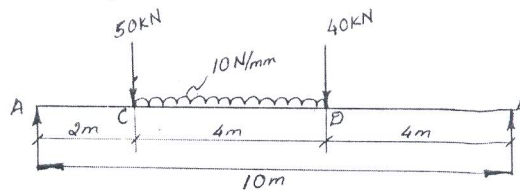

Fig Q5(b)
- b. Draw the shear force and bending moment diagram of a simply supported beam of length 10m and loaded as shown in Fig Q5(b).